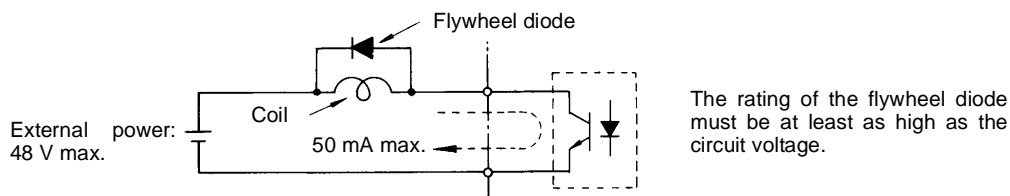

Fig 2.31 Flywheel Diode Connection
* 2. When driving a reactive load, such as a relay coil, always insert a flywheel diode as shown in Fig 2.31.